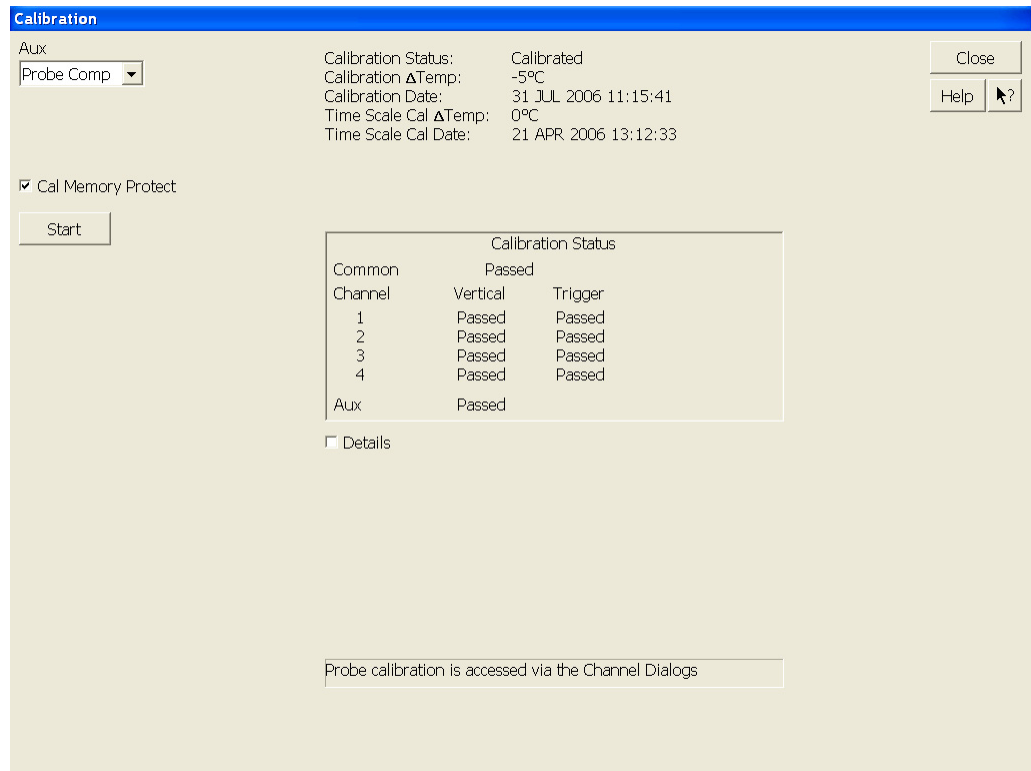

Figure 45 Oscilloscope Calibration Window
- 4 Referring to Figure 45 below, perform the following steps to start the calibration: